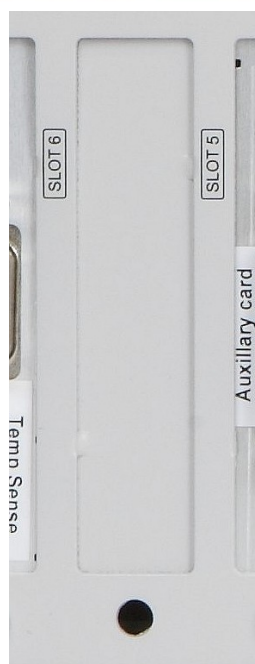

Figure 20 MercuryIPS daughter board blanking plate
- 3 Knock out the blanking plate (Figure 20) in the location where the board is to be fitted. The blanking plates are held in place by 2 metal tongues (4 metal tongues on early iPSs).